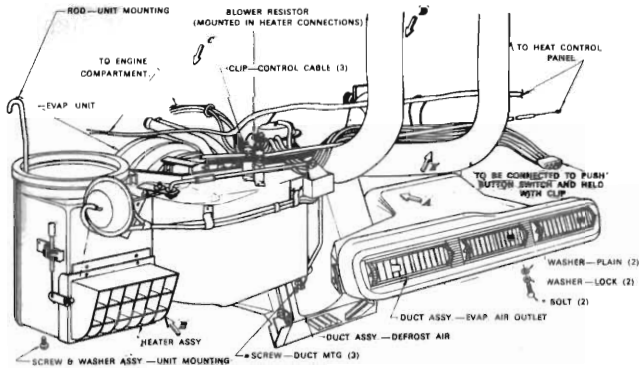
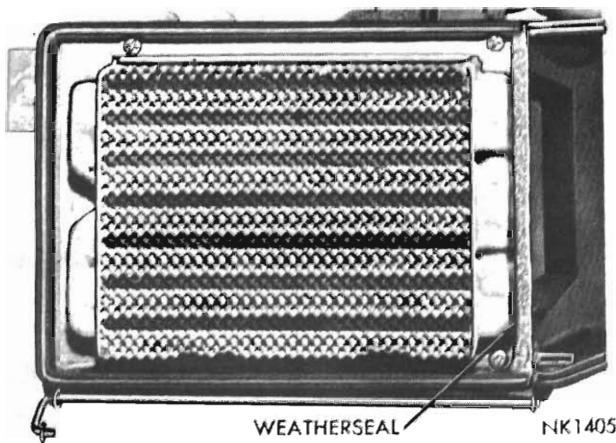

Fig. 16 Heater and Evaporator complete assembly
Fig. 18 - Weather seal positioned
(Refer Fig. 16)
(1) Disconnect the battery positive lead.
(2) Disconnect the leads to the resistor terminals (Fig. 16).
(3) Remove the two screws which secure the resistor in the housing and carefully lift the resistor out. Re-install by reversing the foregoing procedures.
(1) Disconnect the battery earth lead.
(2) Remove the right hand demister tube.
(3) Disconnect the two electrical connection plugs from the switch.
(4) Remove the two retaining cross head screws from the switch.
(5) Carefully withdraw the sensor tube of the switch from the evaporator by pulling the tube outward (note that the tube is straight and is "bottomed" in the housing). It is not necessary to remove the insulating rubber grommet (refer Figs. 18 and 35).
#### To Remove — Refer Figs. 16 and 18
(3) Remove the cool air distribution outlet assembly, glove box assembly and left defroster tubing.
(4) Disconnect electrical wires from resistor block, vacuum hoses from the fresh air recirculating actuator, the temperature control cable, evaporator temperature control switch control cable from the brackets and arm pivots.
(5) Remove the screws securing the heater assembly to the evaporator assembly (view A, Fig. 16).
(6) Disconnect heater housing support rod from the fresh air duct (Fig. 16).
(7) Remove heater assembly from the vehicle.
(8) Remove operating link between bellcrank and recirculating door.
(9) Remove the fresh air inlet seal from either front or rear heater housing half only.
(10) Remove the retainer clips attaching the heater housing halves together and separate the heater housing halves.
(11) Remove the screws attaching the heater core to heater housing and remove the core.
(1) Place a small bead of sealer in heater housing flange.
(2) Install heater core in the heater housing and secure the four attaching screws.
(3) Cement the weather seal on the inner lip of heater core flange (Fig. 18).
(4) Place a small bead of sealer on heater housing cover and position the "air mix" door.
(5) Position both housing halves together and install the eleven retainer spring clips. Remove any excess sealer
(6) Cement fresh air inlet seal into position.
(7) Check the operating link between bellcrank and recirculation door. Adjust if necessary. With recirculation door closed, fresh air door should be fully open.
(8) Position heater assembly in the vehicle and proceed as follows:—
a. Install temperature control cable on outer operating arm in full heat position (toward evaporator) with end of cable housing beyond edge of retainer clip (Fig. 16).